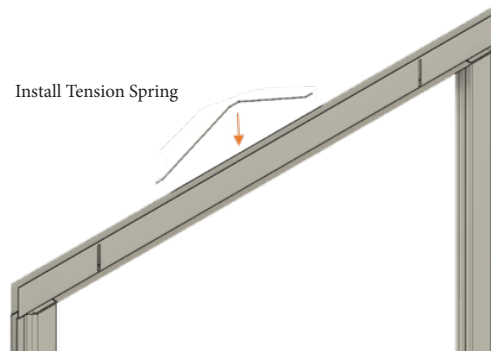

Figure 6
1. Install the tension spring as shown into the top/bottom rail (FIG. 6).